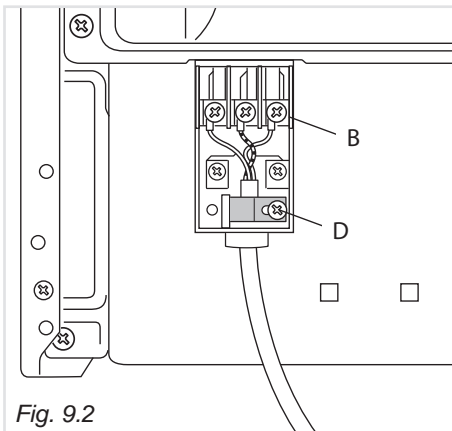

Fig. 9.2
- Unscrew cable clamp "D" (fig. 9.2).